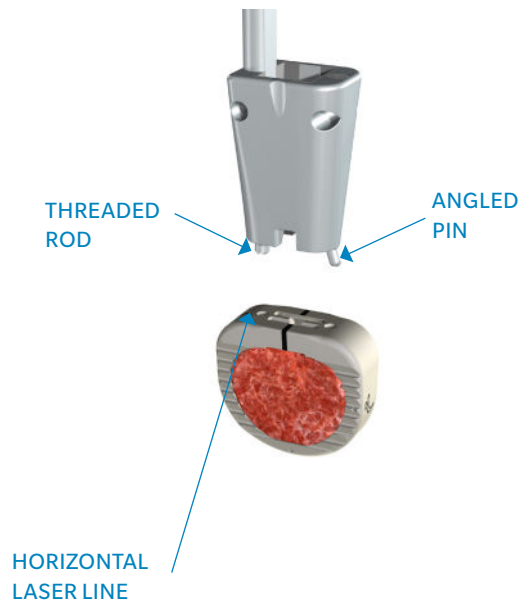

Figure 4a
- Then insert the threaded rod into the threaded hole. The laser line indicates the threaded hole (**Figure 4a**).